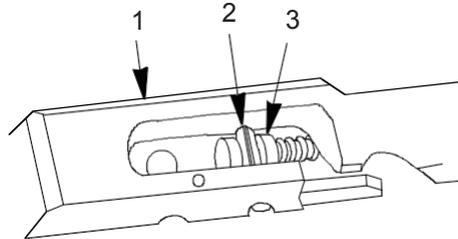

Figure 11. Firing Pin and Slide Body, Bottom View.
6. Install firing pin (Figure 11, Item 3) into slide body (Figure 11, Item 1) . Align notch in firing pin (Figure 11, Item 3) with hole for new large spring pin (Figure 11, Item 2).